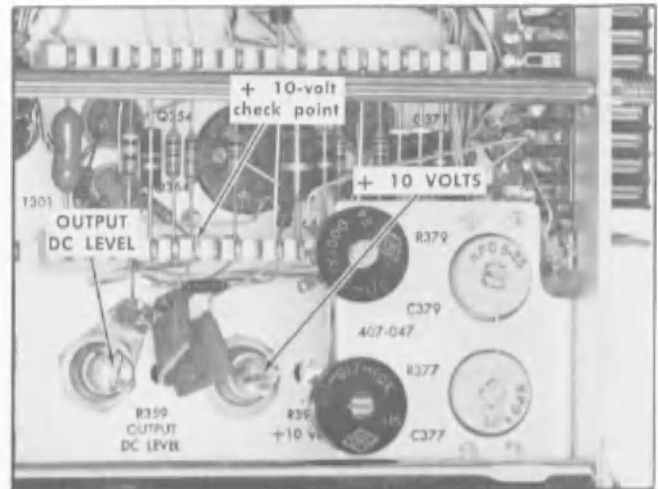

Fig. 7-5. Location of Output DC Level and +10 Volts adjustments and +10 volt test point.
- Adjust—OUTPUT DC LEVEL of the Type 1A2 for a meter reading of exactly 67.5% of the measured +100-volt supply. See Fig. 7-5 for location.
- Connect the DC voltmeter between the +10-volt test point and ground. See Fig. 7-5 for location.